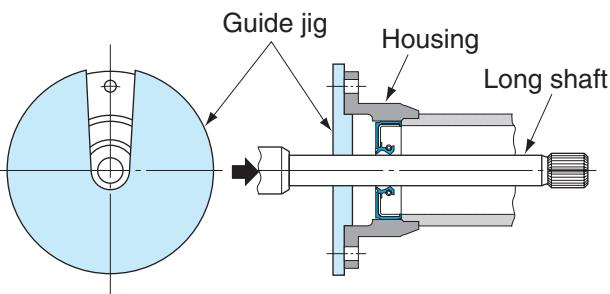

Fig. 1.7.9 Guide jig for inserting of long shaft into seal bore
- 8) When heavy housing with seal is assembled with shaft, or when long or heavy shaft is inserted into seal, seal damage should be avoided. Use the following guide jig to get centering (Figs. 1.7.9 and 1.7.10).